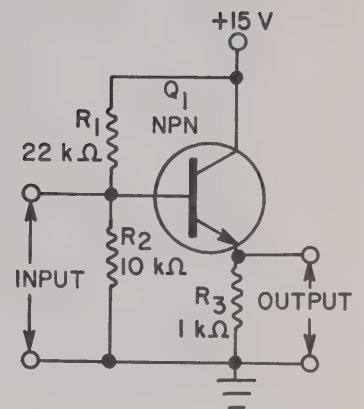
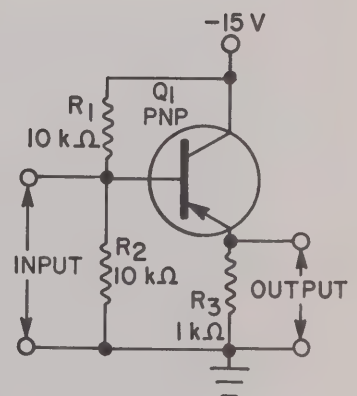
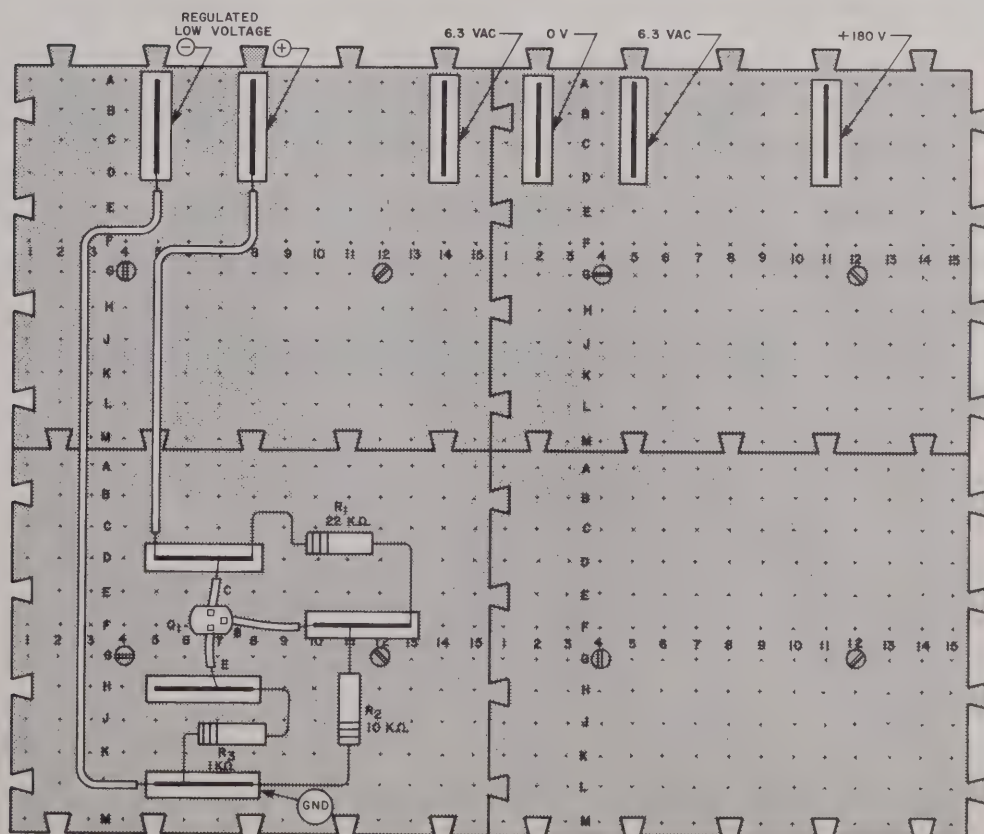

FIGURE 5-3
FIGURE 5-6
FIGURE 5-4
1. Figure 5-3 shows the schematic diagram of an NPN common-collector amplifier, often called an "emitter follower." Set up the circuit on your design console, following the layout of Figure 5-4. This includes inserting the transistor. Be sure to turn off the design console while constructing or changing the circuit.
1. Turn off the design console, and set up the PNP common-collector amplifier circuit of Figure 5-6. You can follow the layout shown for the NPN circuit in Figure 5-4. MAKE SURE THAT YOU REVERSE THE POWER SUPPLY CONNECTIONS FROM THOSE SHOWN IN FIGURE 5-4. R_1 is a $10\text{ k}\Omega$ resistor in the new circuit.
4. D - REFERRING TO THE CIRCUIT OF FIGURE 5-3, THE VOLTAGE AT THE COLLECTOR -- DOES NOT VARY.
8. D - WHEN THE BASE OF Q_1 IS SHORTED TO THE EMITTER IN THE CIRCUIT OF FIGURE 5-3, THE -- VOLTAGE AT THE EMITTER DECREASES.